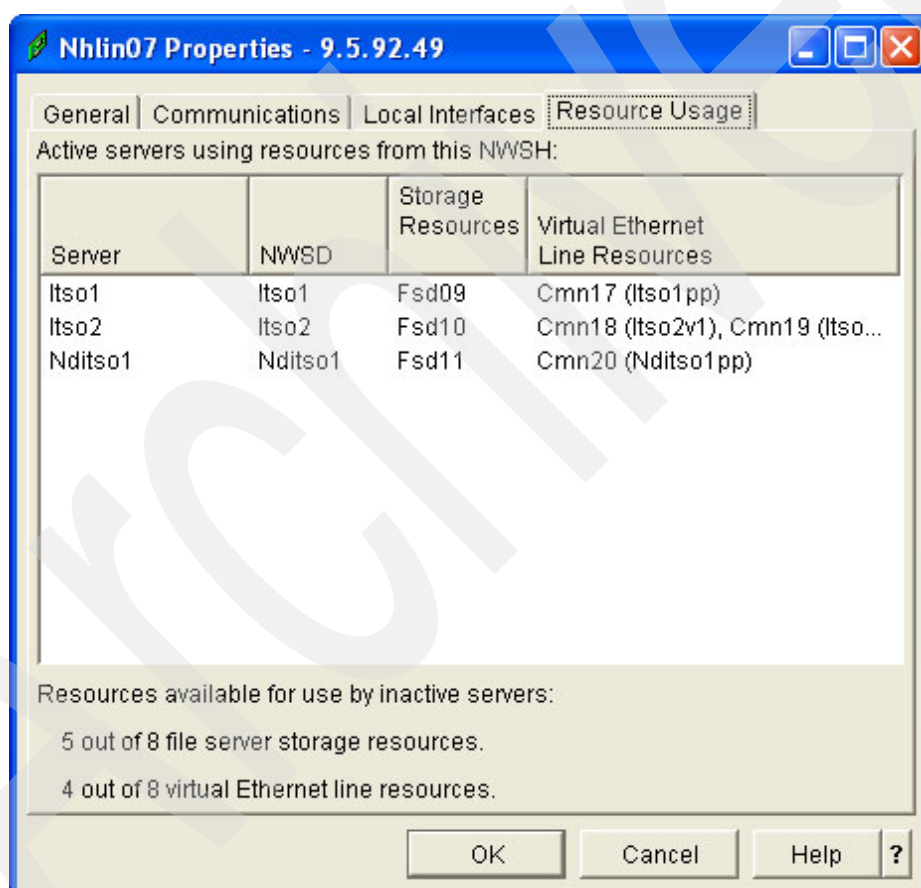

Figure 2-15 Hosted server and Virtual Ethernet resource usage on an NWSH
6. Click the Resource Usage tab. You see a window similar to that shown in Figure 2-15.